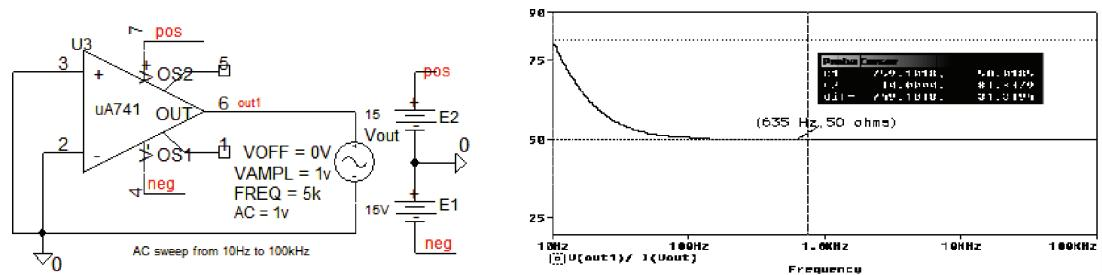

FIGURE 8.30: The output impedance
- (2) To measure the input and output impedances, follow the procedure outlined in [ref. 3]. Measure the output impedance by injecting a voltage as shown and plotting the ratio of voltage/current as shown in Fig. 8.30.